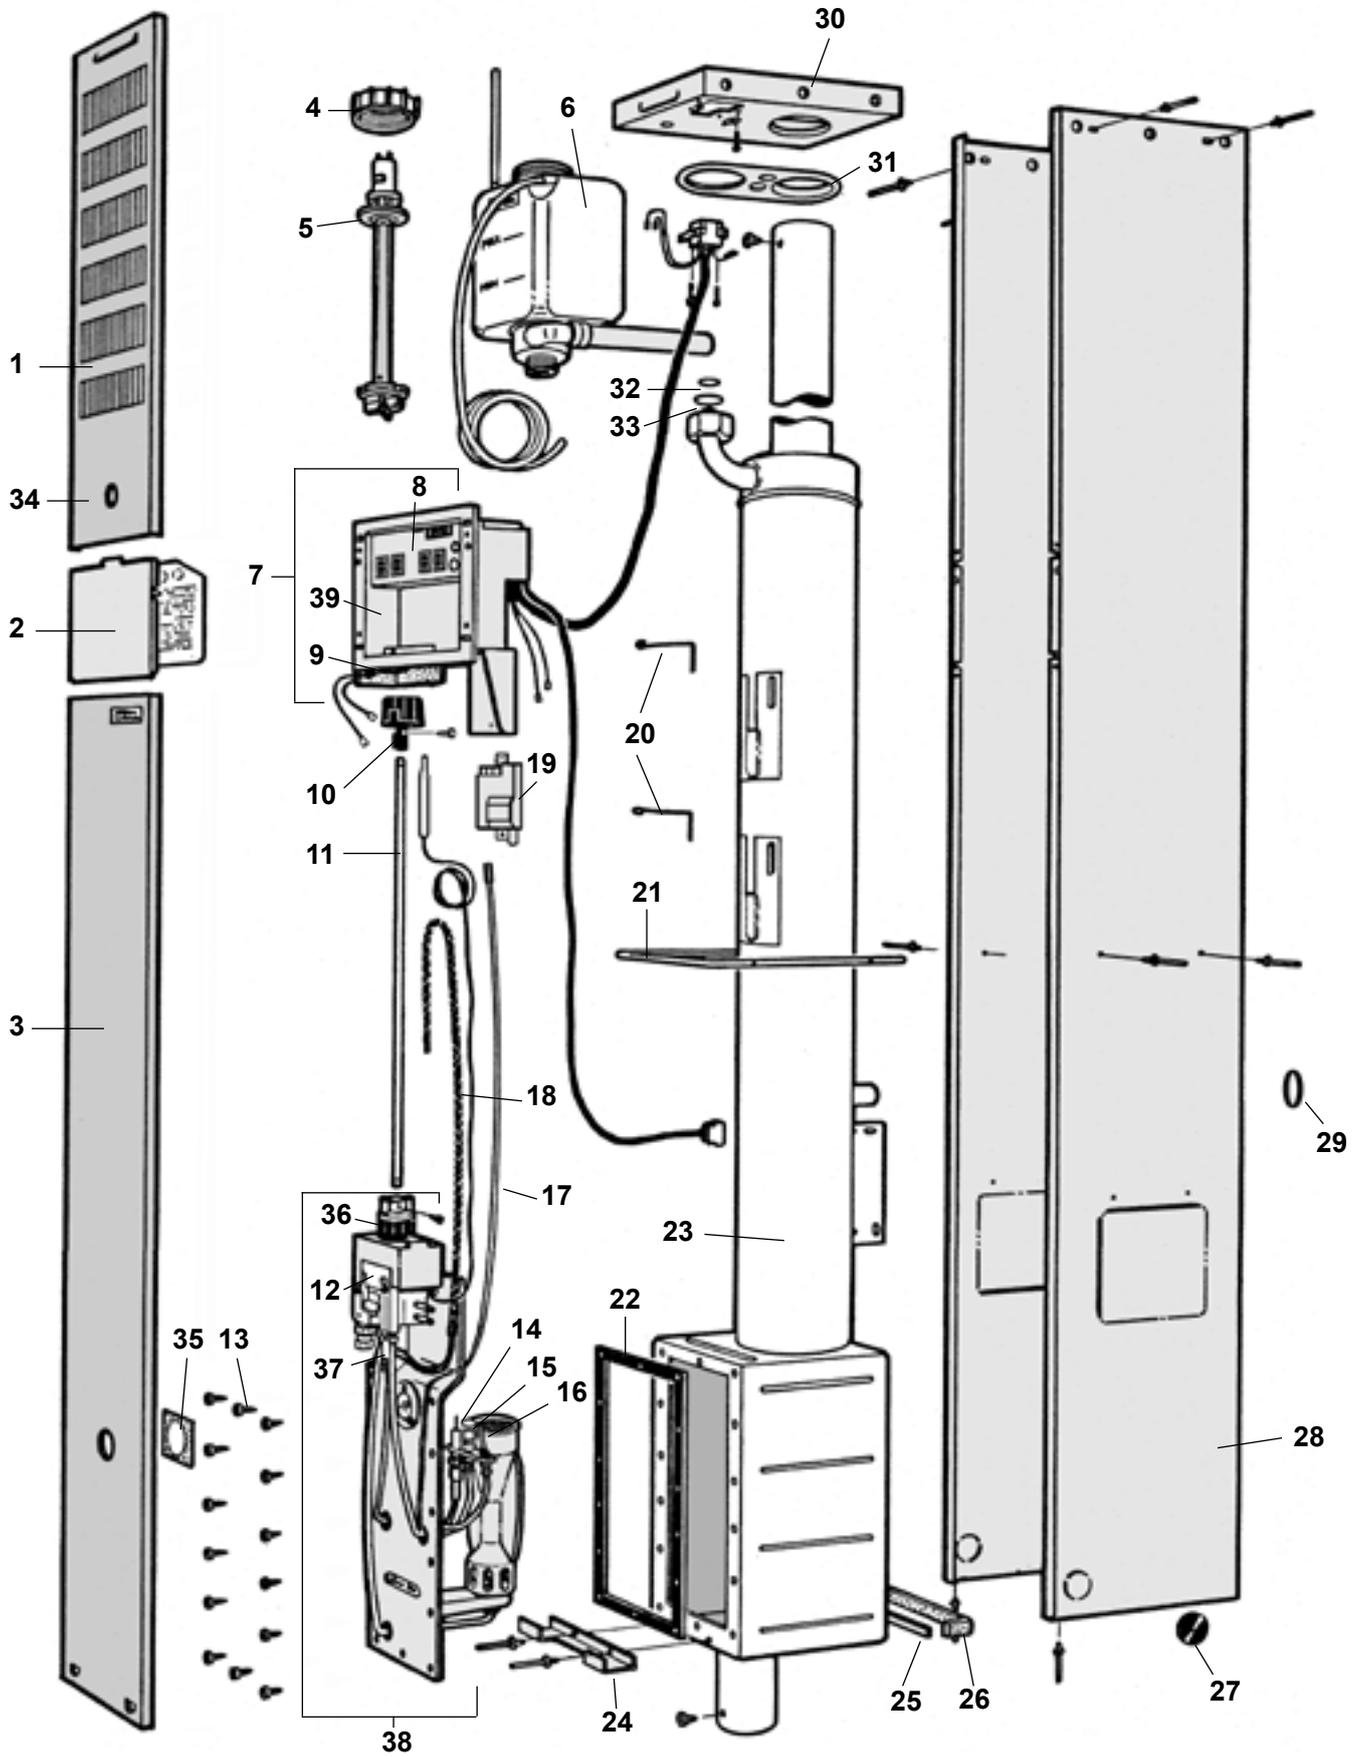

Fig 40
3. Pull out the knob (fig 40 A) and move it the number of degrees corresponding to the difference. Press in the knob and check that it trips at the correct temperature (at click should be heard at the right temperature when the thermostat knob is turned from max to min).